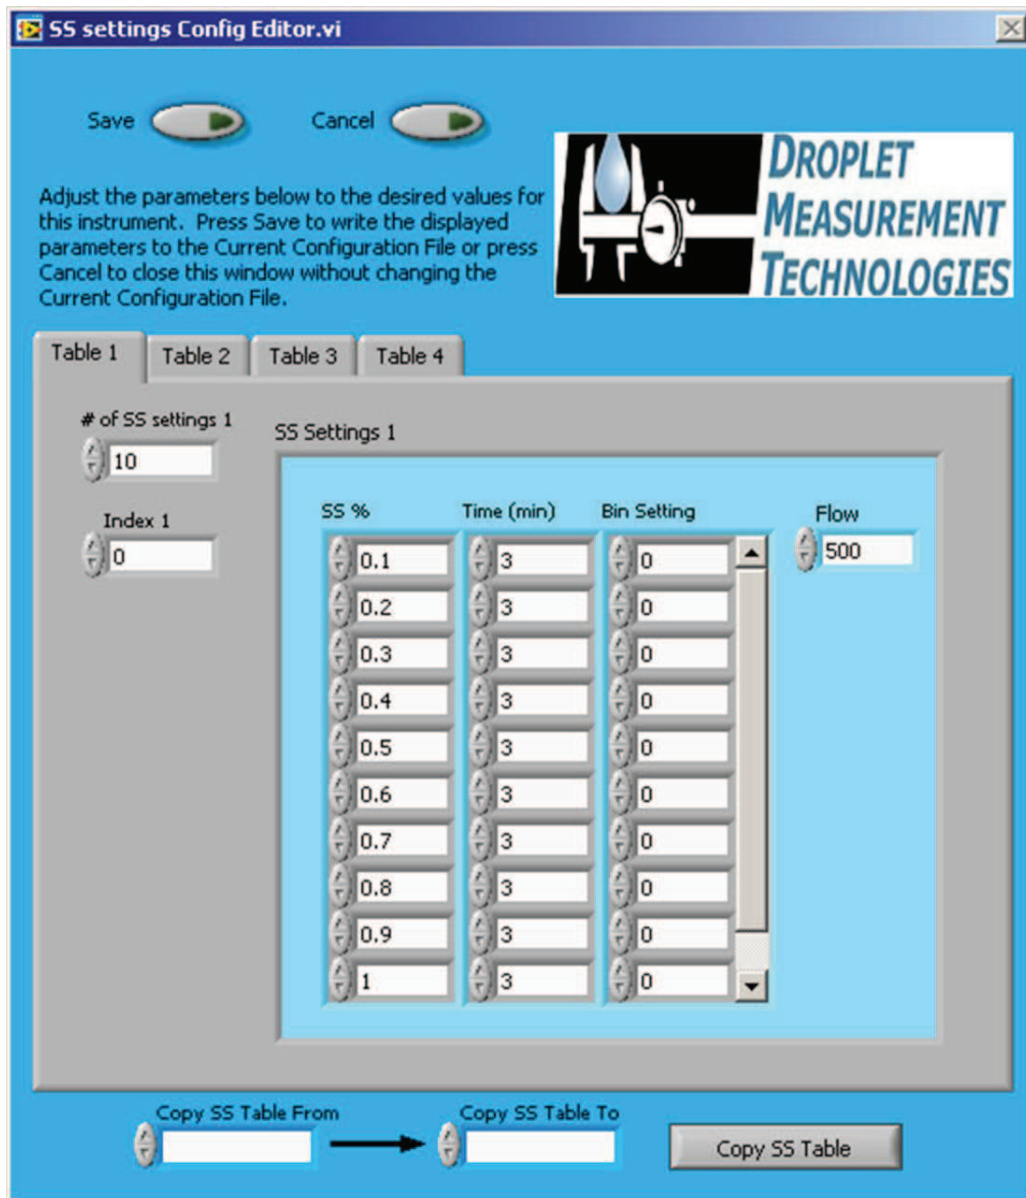

Figure 44: Program for Setting the Supersaturation Tables
The program **CCN SS Settings Config Editor.exe** allows the user to create up to four predefined tables for operating the CCN in a scanning mode with variable supersaturation and time periods. (Users can also enter manual values for SS% and Delta T Set (C); see section 12.1.1.2). Figure 44 shows the configuration editor program.